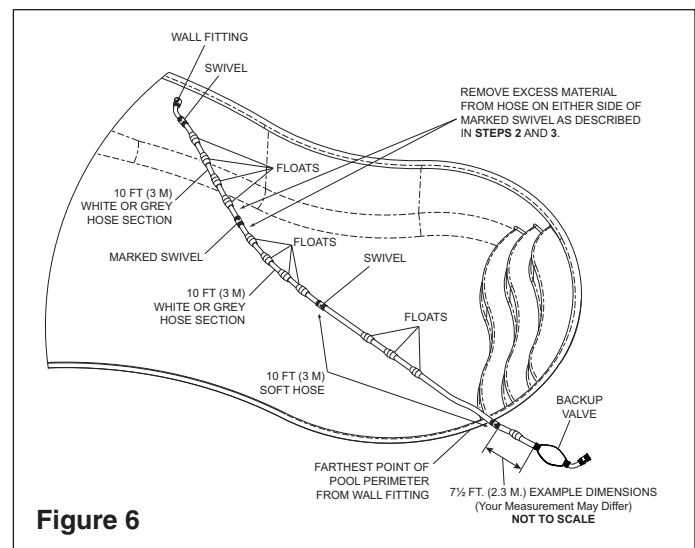

**Figure 4**
2. If the pool depth is less than 10 ft. [3 meters], disconnect the soft light grey lead hose, labeled section one, from the back-up valve. Cut the lead hose so the length with back-up valve is equal to the deepest part of the pool. See **Figure 4**.